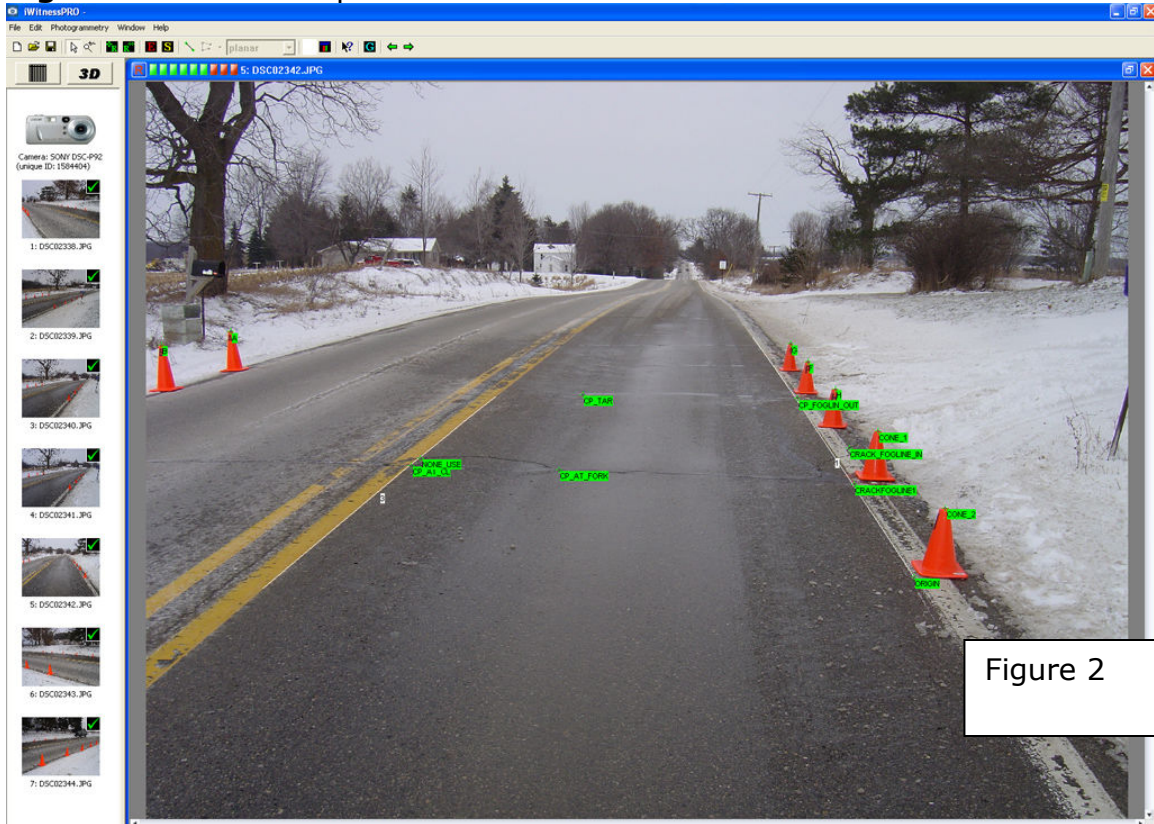

Figure 2
**Figure 2** are "control points" measured months after the crash in *iWitness*